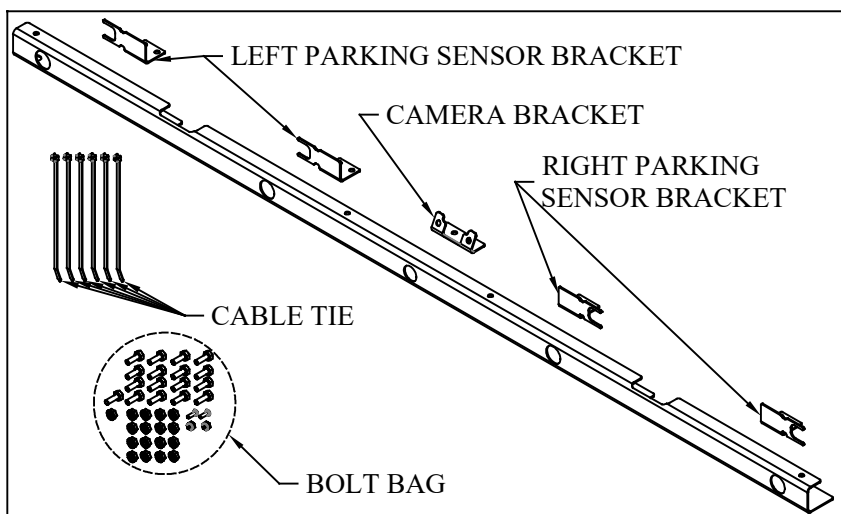

Figure 1: Part Identification
1. **Verify** backup bar kit (Figure 1 and Table 1).